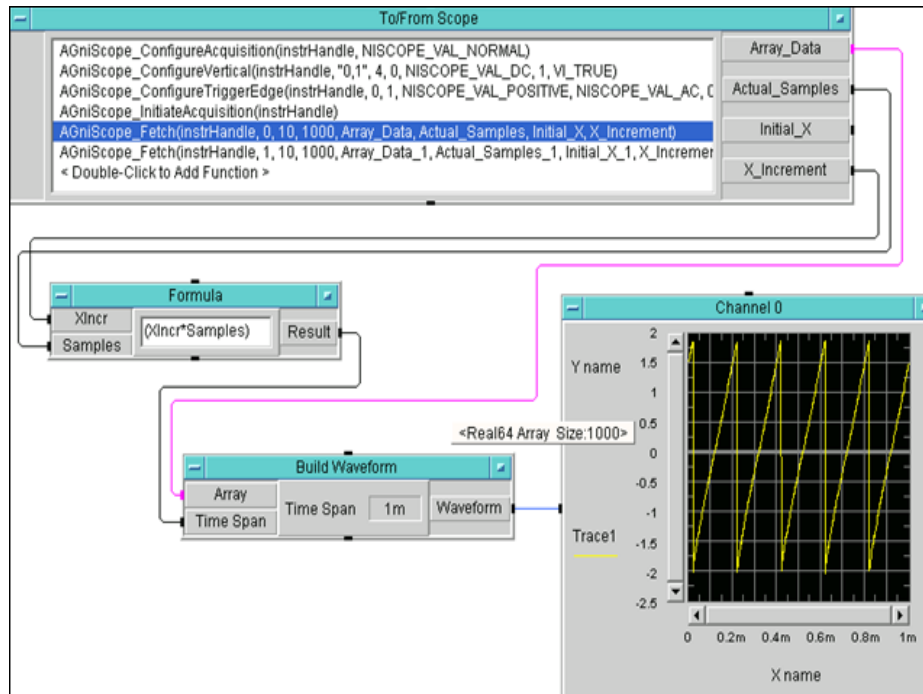

Figure 3-10 A multi-fetch two-channel data acquisition sub-program
- 1 Prepare the AGniScope sub-program as shown in Figure 3-10.